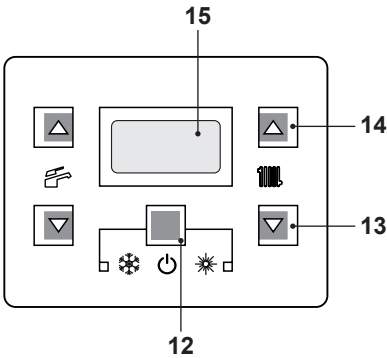
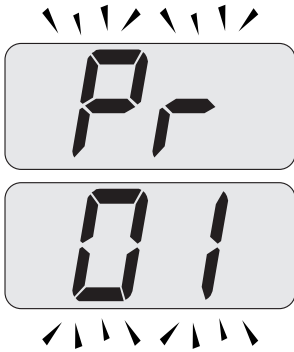
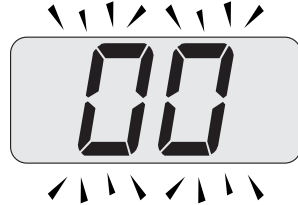

Fig. 9.3
Fig. 9.4
Fig. 9.6
- Enter in "programming mode" by sequentially pressing and holding in keys 12 - 13 - 14 (Fig. 9.3) for 10 seconds until the letters **Pr** that alternate with code **01** are displayed on the LCD display, indicating that "parameter 01" (Fig. 9.4) has been activated.
- Press keys 12 and 14 (Fig. 9.3) at the same time until the value of parameter 05 (00=G20) is displayed on the LCD display (Fig. 9.6).
- By pressing key 14 three times, it is possible to change the value of parameter 05 from **00**=G20 to **05**=G31, which is ok for LPG gas.
- By pressing key 12 (Fig. 9.3) confirmation of the inserted value is obtained.
- Press keys 12 and 13 (Fig. 9.3) at the same time to exit without changing the value (return to the parameters list Fig. 9.5).
- Press sequentially keys, 12 - 13 and then 14 (Fig. 9.3) and hold in for 10 seconds to exit the "programming mode".